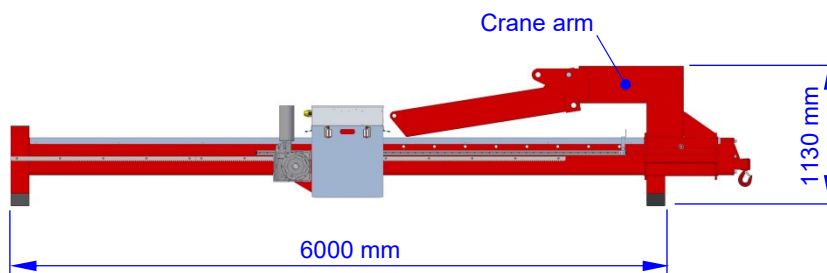
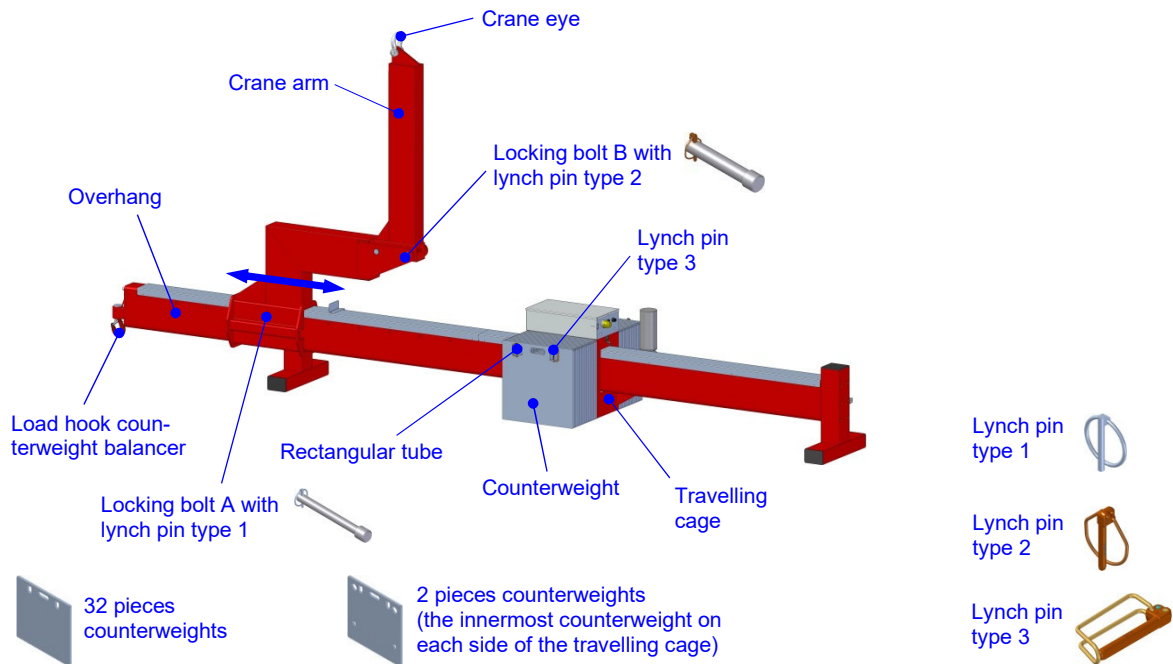

Fig. 4: Transport and storage of the counterweight balancer
Fig. 9: Assembled counterweight balancer
2. Bring the counterweights in the position shown in fig. 4.
3. Remove the locking bolt B with lynch pin type 2 (s. fig. 9).
4. Fold the crane arm in the position shown in fig. 4.
- ⇒ If the crane arm is in transport position (s. fig. 4), fold it into the position shown in figure 9 by performing the following steps:
1. Fold the crane arm into the position shown in fig. 9.
1. Remove the four lynch pins type 3 (s. fig. 9).